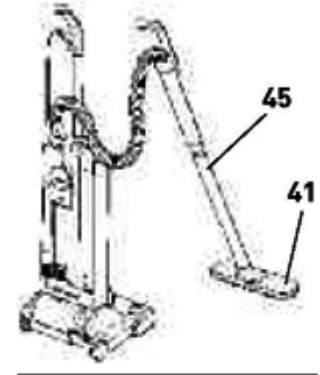

Figure 6
To vacuum walls, under beds, or higher-reach areas, etc., the SEBO AUTOMATIC X can be fitted with an additional straight tube (45) and the wall and floor brush (41). The machine will then perform as a canister vacuum (as shown in figure 6).